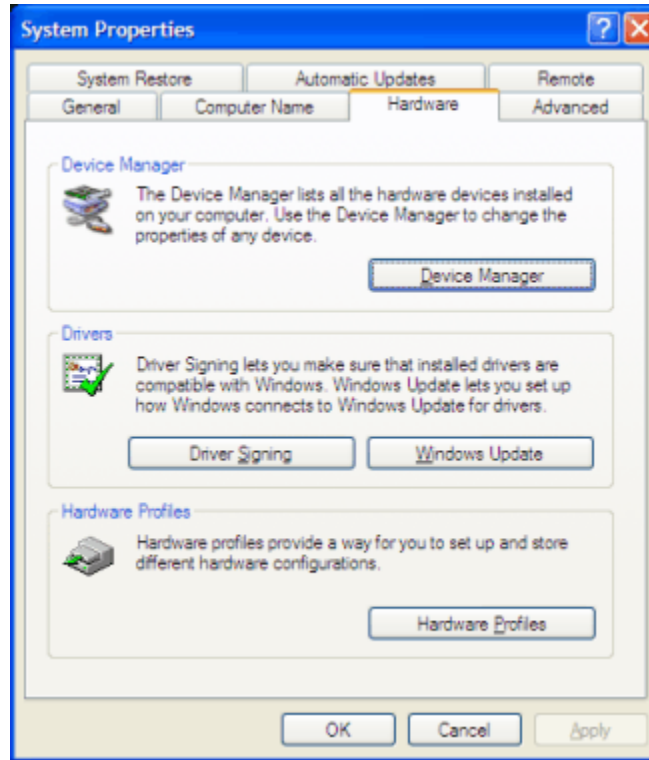

Figure 5-1. System Properties Window
2. Select the Hardware tab in the System Properties Window (see Figure 5-1), then Click on the Device Manager to go to the Device Manager window.